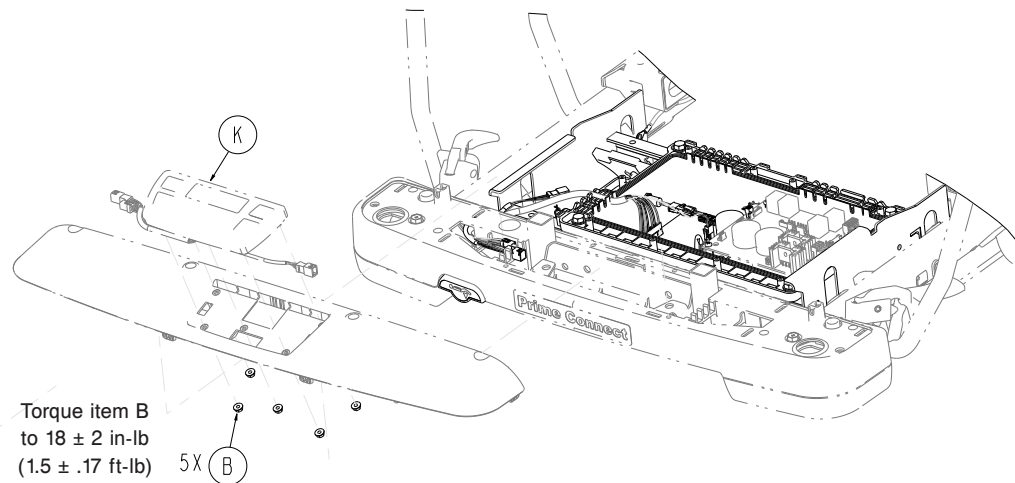

Figure 38 – Top cover assembly
- Using an 11/32" nut driver, remove the five nuts (B) that secure the keypad assembly (K) to the top cover and remove the keypad assembly (Figure 38). Discard the keypad assembly and nuts. Save the top cover.